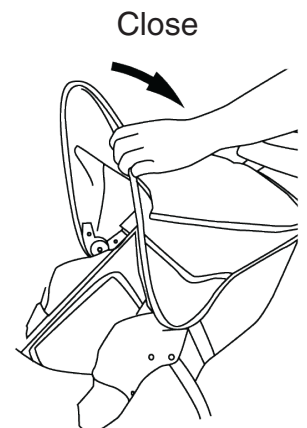
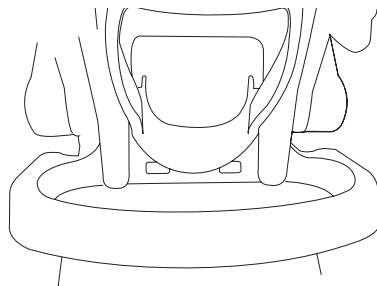

Fig. 4A
Fig. 9A
To close canopy: push backward on front edge until canopy is all the way collapsed. (Fig. 4A)
16. To use the car seat feature, lock back wheels, close the canopy as described in the canopy section (Please see Page 7 Fig. 4A). Recline seat by squeezing both sides of cord housing as described in seat back positioning section (Please see Page 11 Fig. 8). Turn and lock grey latches (Fig. 9). Align car seat as shown in Fig. 9A. Angle feet first, while lowering car seat into a locked position on the child tray. Car seat is in a locked position when the car seat "CLICKS" into the child tray. Graco car seat locked position (Fig. 9B) Evenflo car seat locked position (Fig. 9C). Make sure car seat is locked in place by pulling upward on car seat.